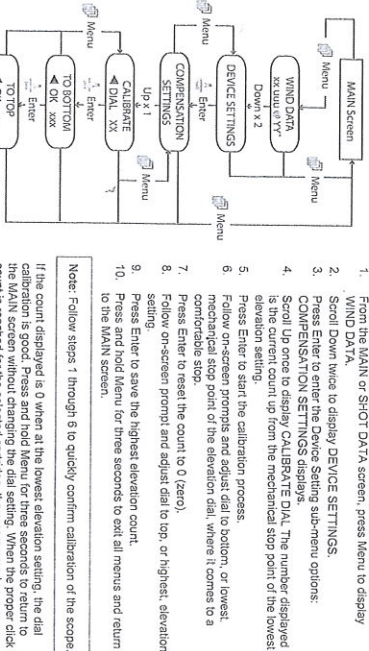

Figure 4-1
- There is one other case that requires calibration. For this, see Zeroing the "Primary" Cartridge on page 19. See Figure 4-1 for the calibration process.